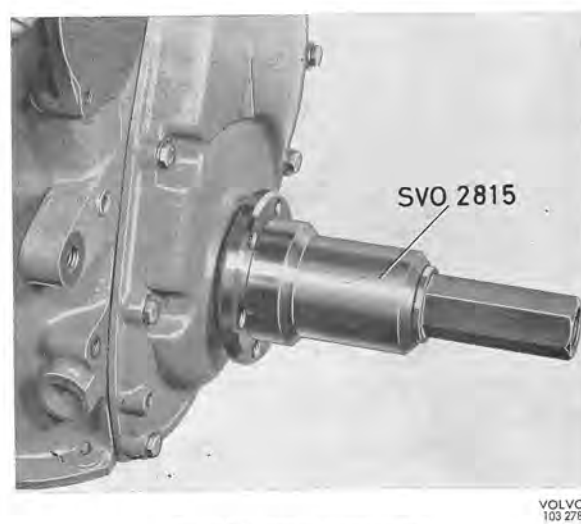

Fig. 2-39. Fitting polygon hub
5. Fit the polygon hub with tool 2815, see Fig. 2-39. Before fitting, the sliding surfaces of the polygon hub should be greased. **Note the marking,** that is, the center punch marks on the crankshaft end and polygon hub. Fit the center bolt and tighten it to torque of 70—80 Nm (50—57 lbft).